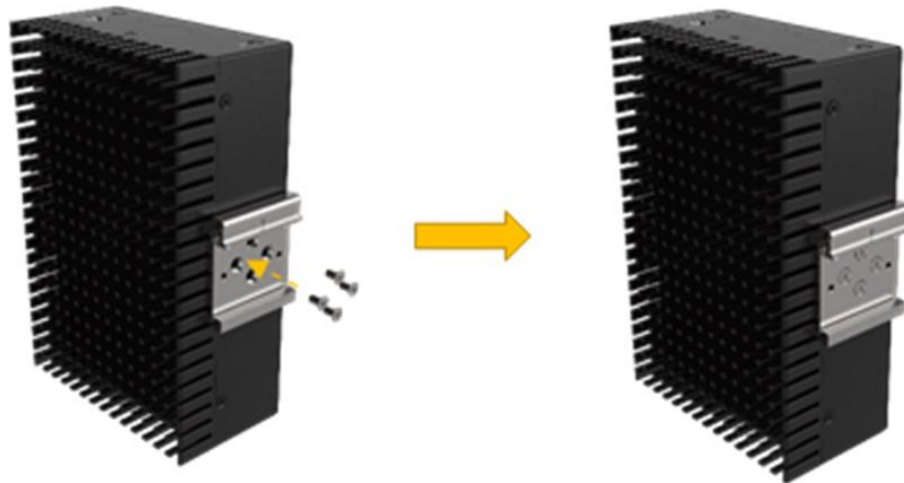

Figure 3-19: DIN Rail Mounting Bracket Installation
Step 3: Secure the brackets to the system by inserting retention screws (**Figure 3-19**)